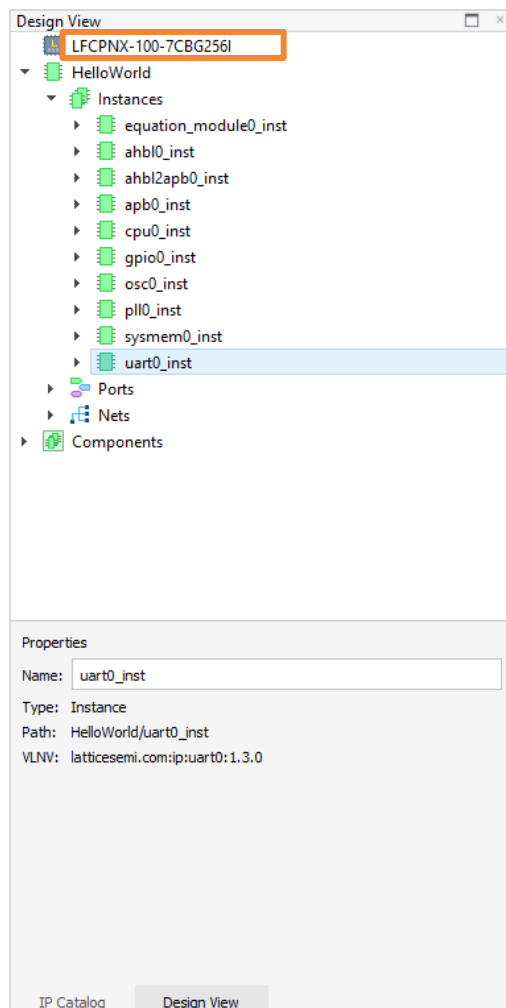

Figure 2.150. Design View of Device Part Number
4. Click **Yes**. By clicking **Yes**, the Builder engine regenerates each IP in the project with the updated device settings. All IPs in current project are configured. The new device part number shows in Design View (Figure 2.150).